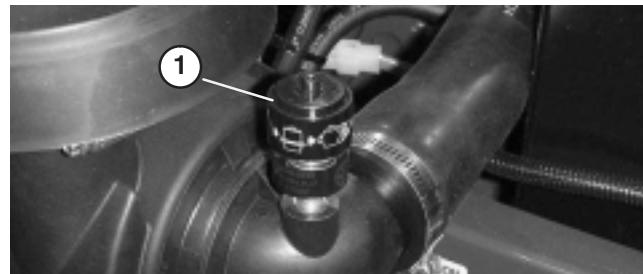

Figure 43
- Service the air cleaner filters when air cleaner indicator (Fig. 43) shows red or every 400 hours (more frequently in extreme dusty or dirty conditions). Do not over service air filter.
7. Reset indicator (Fig. 43) if showing red.